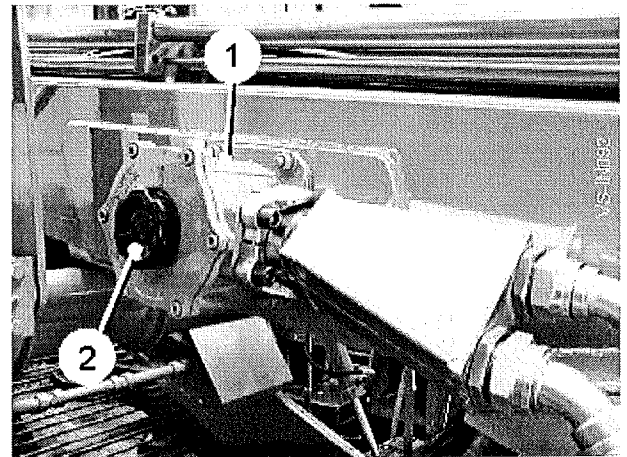

Fig 27
Hydraulic oil for the system is supplied from the integral chassis tank. Oil feed to the pump is through the suction filter (item 1, fig 27).
Always ensure the suction filter knob (item 2, fig 27) is wound fully in clockwise before operating the harvester.